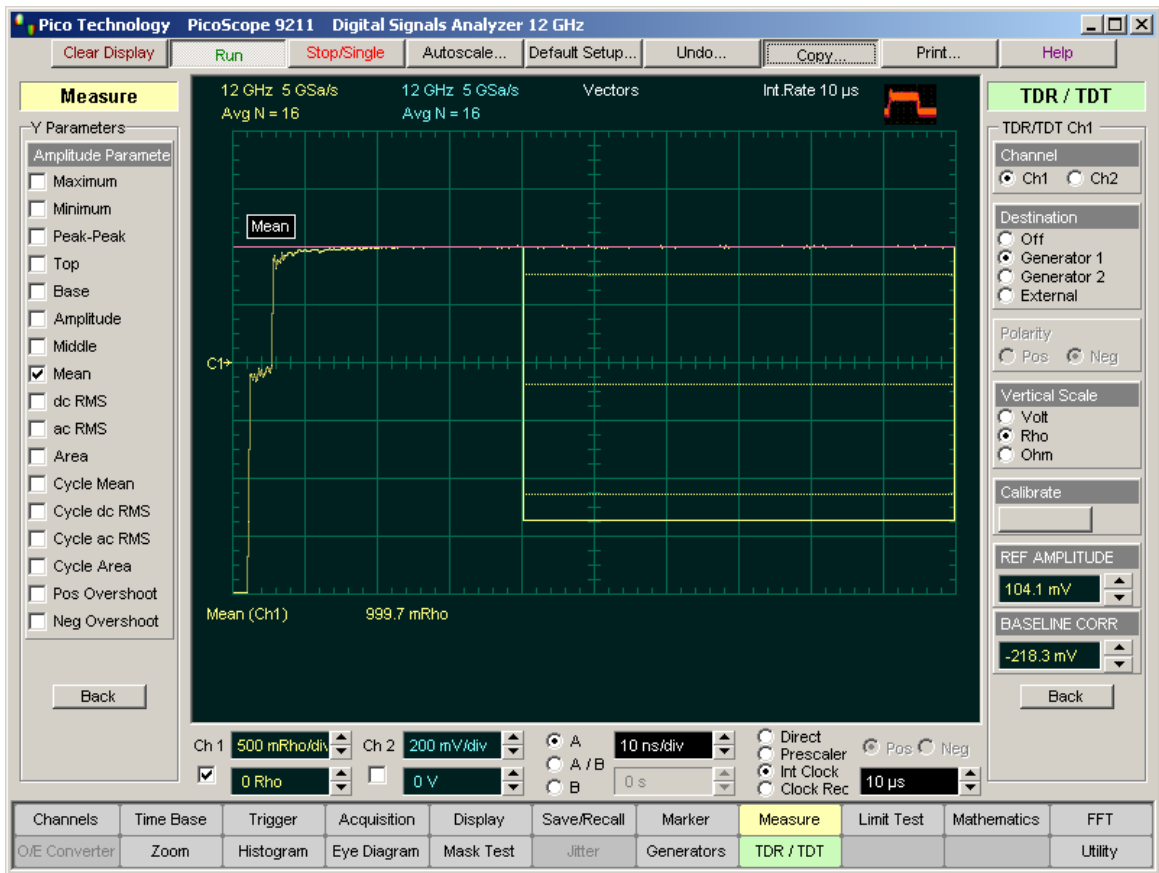

Figure 3
4. Click **Rho** in the **Vertical Scale** menu. See Figure 3.
Figure 3 shows that the rho value is near 1 rho when the transmission line is open-circuit. The **Mean** measurement shows 999.7 mrho.